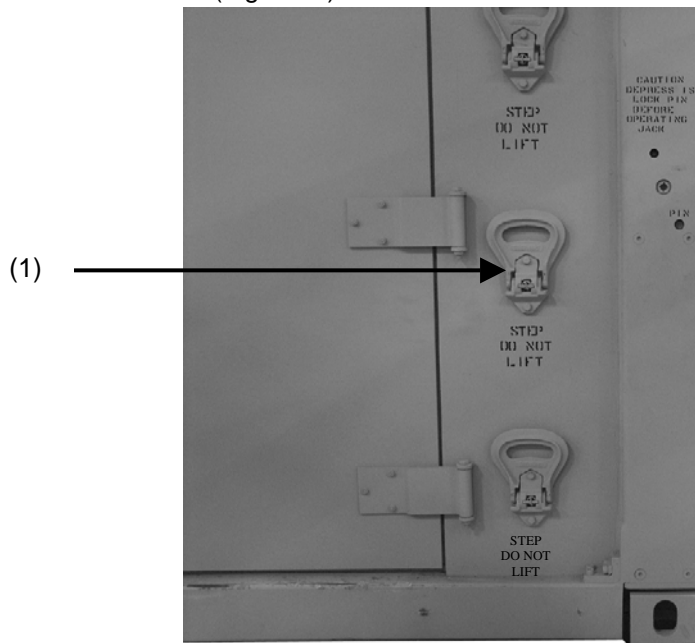

Figure 4-37. Folding steps on personnel end wall.
Remove two 3/8" bolts and two lock washers and folding utility step (1) from external personnel end wall (Fig. 4-37). Discard lock washers.
Install folding utility step (1) onto external personnel end wall and secure with two 3/8" bolts (torque to 30 ft-lb) and two new lock washers (Fig. 4-37).